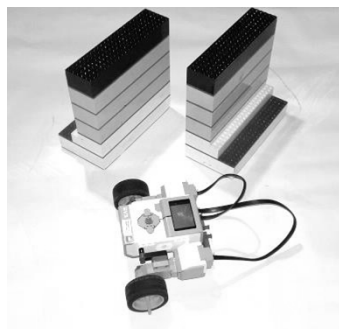

Figure 20 - Bridge supports (robot for size comparison)
- 2) Rules (See Figure 1819, Figure 20, Figure 2121, Figure 1922, Figure 2023, and Figure 24)